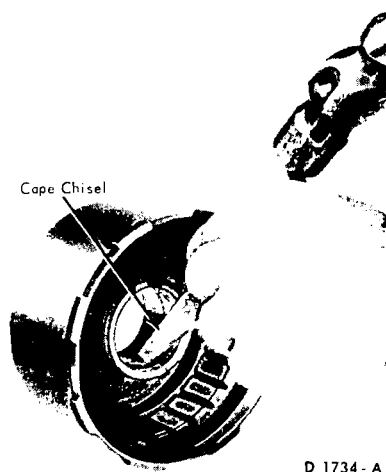

FIG. 84—Removing Reverse-High Clutch Bushing
7. Remove the drum bushing if it is worn or damaged. Use the cape chisel (Fig. 84) and cut a shallow groove 3/4 inch in length along the bushing seam until the chisel breaks through the bushing wall. Pry the loose ends of the bushing up with an awl and remove the bushing. To prevent leakage at the stator support O-rings, be careful not to nick or damage the hub surface with the chisel.